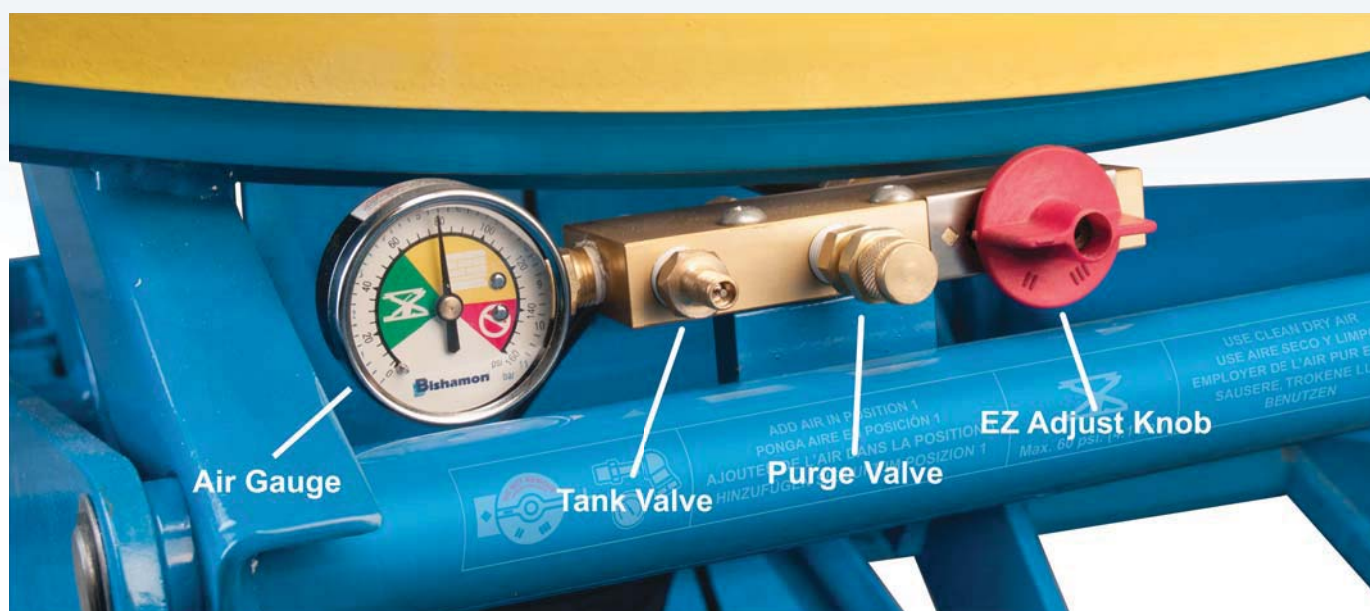

Figure 6 EZ Loader Pneumatic Components
3. Turn the EZ Adjust knob (identified in Figure 6), to the charge/discharge position and slowly open the purge valve to release the air from the system. As the air releases, the scissor mechanism will lower and completely engage the maintenance bars. ALWAYS check the position of the bars before going under the platform.
Before you begin, locate and identify the pneumatic components detailed in Figure 6. These components will be referred to in the Installation and the Set-Up procedures. Make sure you understand the function of each component before proceeding.